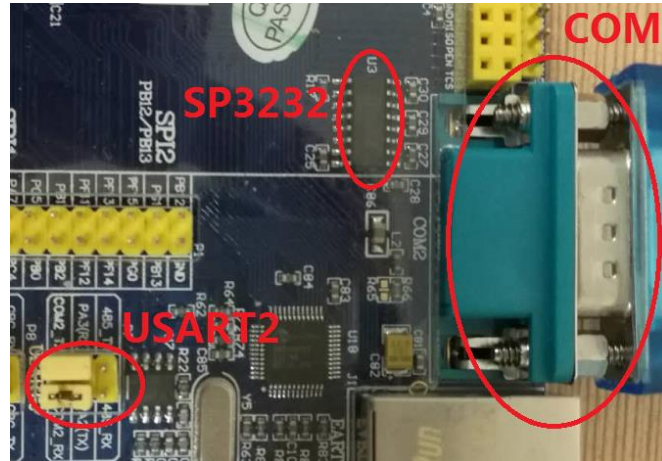

Figure 6. Locations of USART2, SP3232, and COM
USART2 is connected with a chip SP3232, which is a level converter chip to convert the microprocessor's signal levels to RS-232 signal level, and then connect to another device through a standard DB9 female port (COM port, or RS232 serial port). For connection with the computer, you can check Figure 6 and 7. On the workbench, you have one USB-to-Serial cable (one end is USB and the other is male RS232).
- 4) Connect a USB-to-Serial cable to the board “COM2” DB-9-female port (near the upper-right corner of the board, refer to Figure 6) and the computer.